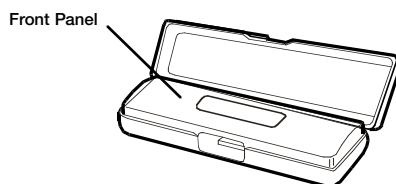

Figure 8 Place the front panel in its protective case
4. Immediately place the front panel in its protective case for safe and clean storage **(Figure 8).**